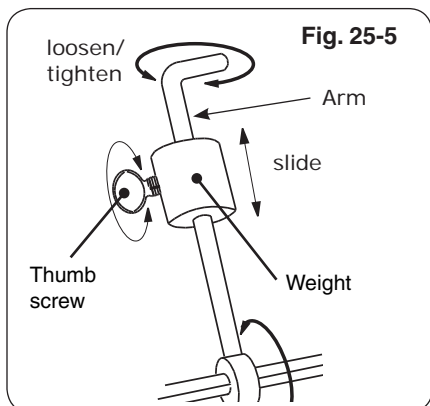
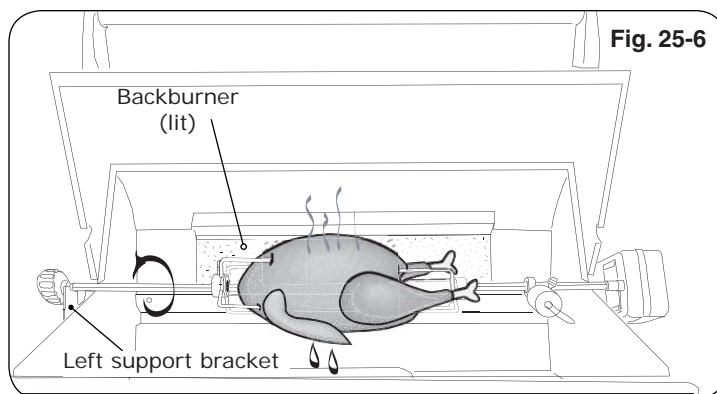

Fig. 25-5
Fig. 25-6
7. Slide the counterbalance weight up or down the arm until the rod rotates most evenly then tighten thumb screw (Fig. 25-5 and Fig. 25-6).